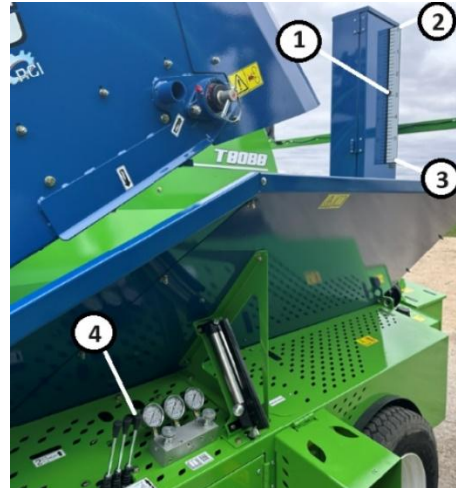

Figure 70. Anchor Position Control
1. Half-way through the last load, stop the bagging process and conveyor and pull the anchors to the home position. See Figure 70.